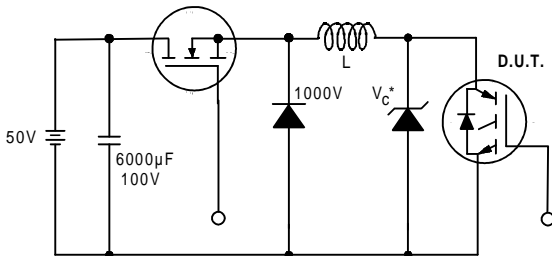

Figure 19. Clamped Inductive Load Test Circuit
② $V_{CC} = 80\%(V_{CES})$, $V_{GE} = 20V$, $L = 10\mu H$, $R_G = 5.0\Omega$ (figure 19)
③ Pulse width $\leq 80\mu s$; duty factor $\leq 0.1\%$.
④ Pulse width $5.0\mu s$, single shot.